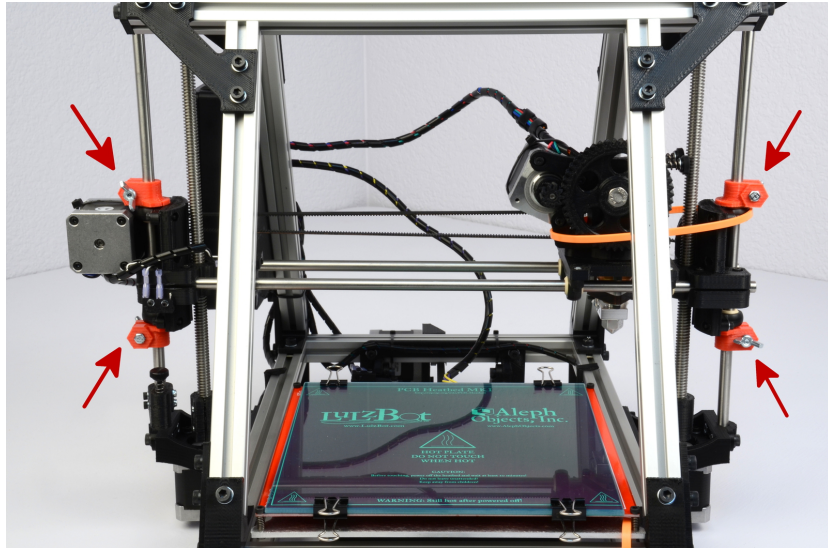

Figure 2: Red Shipping Clamps
10. Remove the four red shipping clamps above and below the x-end motor mount and idler (Fig. 2).